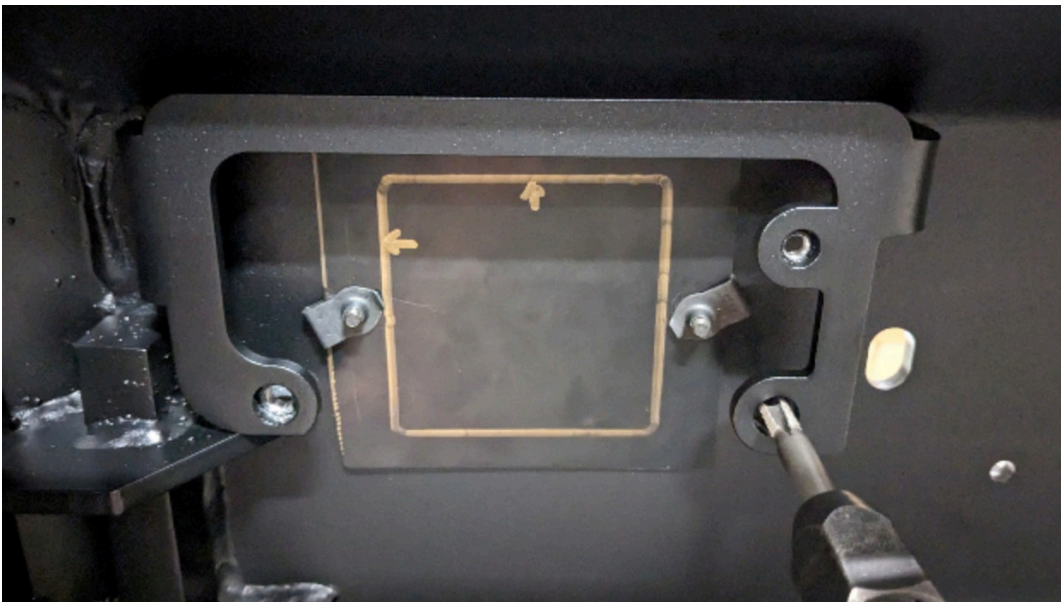

Figure 19
19. Use a 5/16" drill bit, drill out the two (2) previously marked holes in the black plastic sheet.
20. Install the two (2) provided barrel nuts onto the black plastic sheet. (Figure 19)